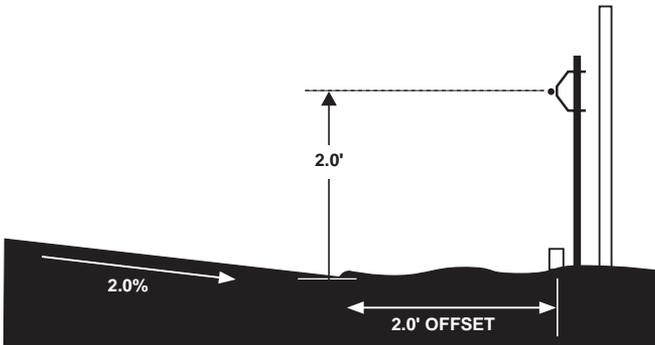

Figure 3-11. Stringline Set at Desired Elevation
- Repeat step 3 on page 3-8 at each station before starting to cut (Figure 3-11).